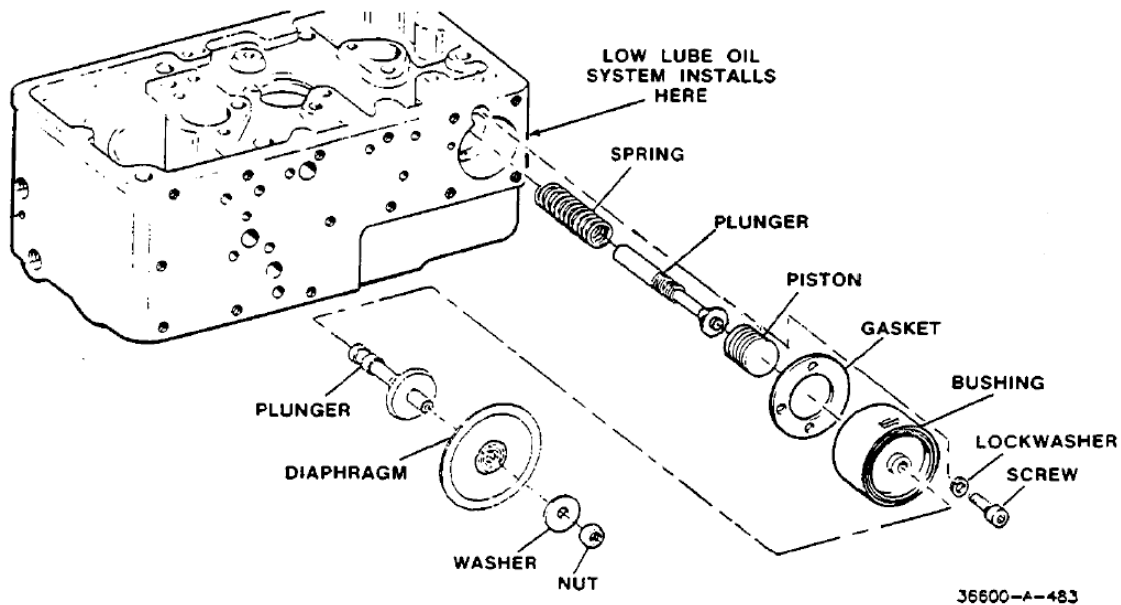

Figure 5-39. Lube Oil Shutdown
3. Install bulkhead union assembly as shown in Figure 5-39.
4. Insert gasket, plunger, spring, piston, and bushing into hole for low-oil shutdown (Figure 5-39).
5. Assemble diaphragms as shown in Figure 5-39 or 5-39A.